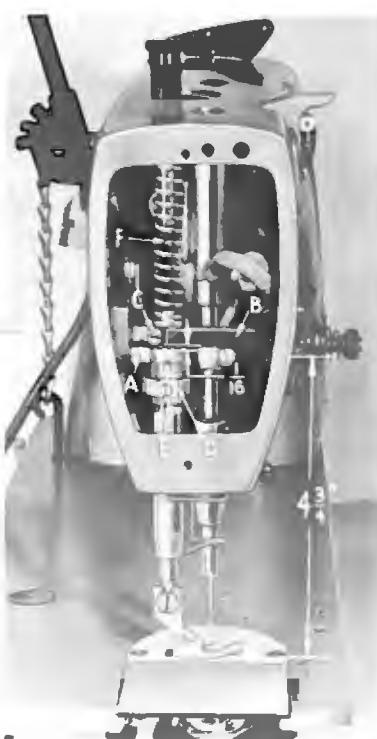
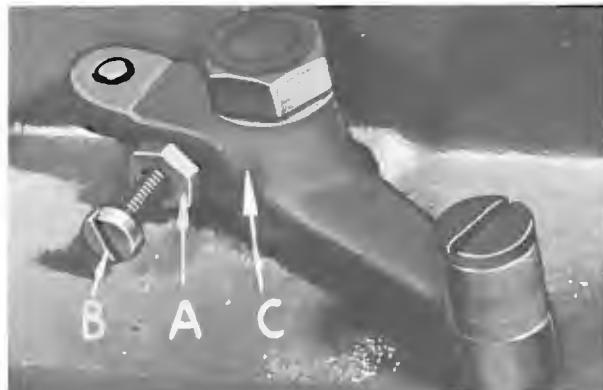

Fig. 16
Fig. 15
The presser bar connection (A, Fig. 16) should be set so that it is about $1/16$ inch below the presser bar guide (B). This is accomplished by tipping the machine back against the rest pin, loosening the lock nut (A, Fig. 15), and relocating the stop screw (B) on the lifter lever bell crank (C). By turning the stop screw to the right or left, the proper setting of the presser bar connection is accomplished. Tighten the lock nut (A) to lock the stop screw in place.
When locating the presser bar guide (B, Fig. 16), the presser foot must rest directly against the throat plate with the feed dog in its lowest position. The guide is set properly when there is a 4 3/4 inch space between the thread take-up wire and the top of the throat plate (Fig. 16).
The tension release should be set so that it will not release when sewing over seams or when the presser foot is raised for back tacking. The adjustment of the tension release cam (D, Fig. 16) and the in and out position of the tension assembly are required for proper operation.
The tension release cam (D, Fig. 16) should now be positioned by loosening set screw (E, Fig. 16) and then raising or lowering the cam to suit the sewing conditions, the average release point being between $1/4$ to $5/16$ inch of presser foot lift above the throat plate. Tighten tension release cam set screw securely.